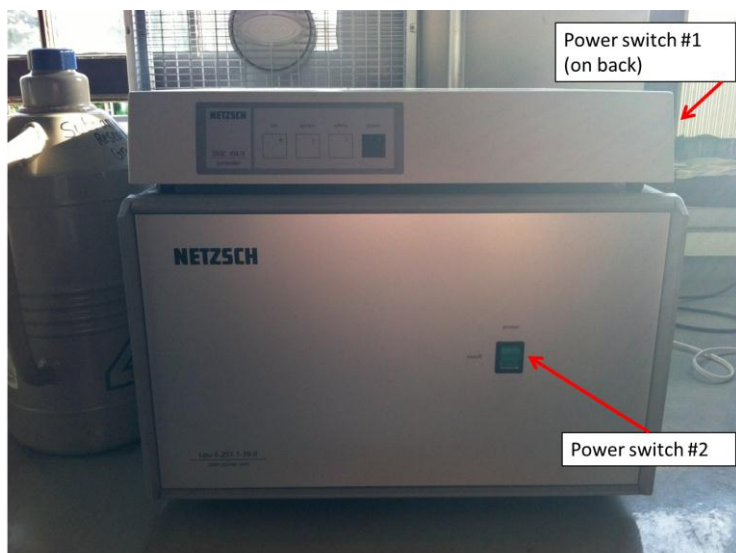

Figure 7: Laser power unit for the NETZSCH LFA 457.
- Turn on the laser power unit by first turning on the switch located on the back, and second by turning on the green switch located on the front (see Figure 7).